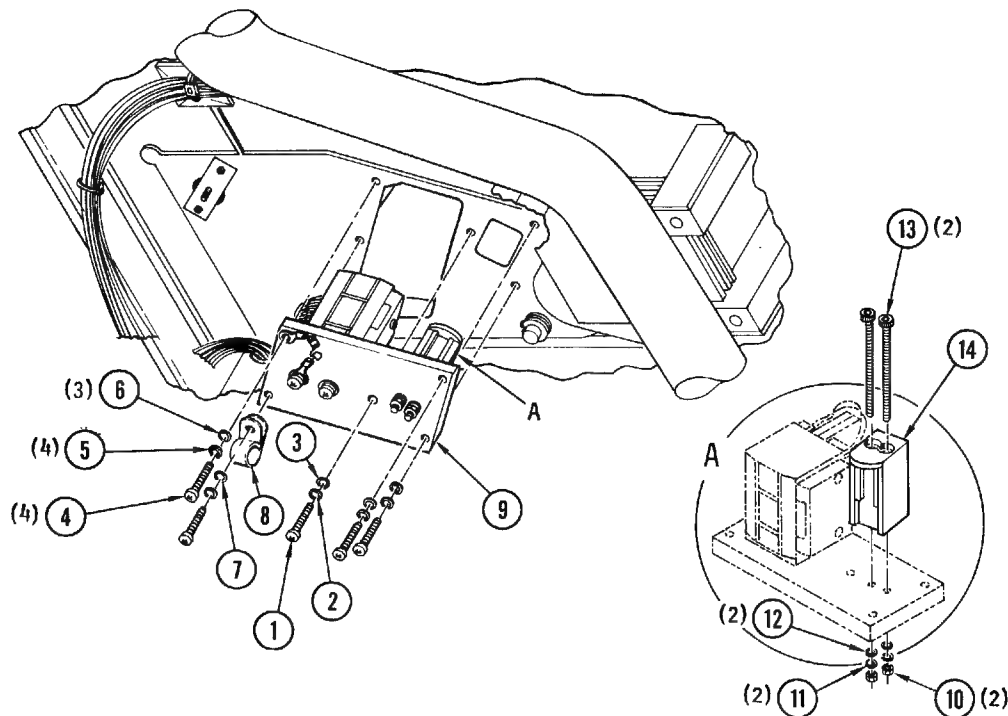

Figure 4-10. Head Assembly
4-24. **Removal and Replacement of Assembly and Parts (Figure 4-10).** Place the transport in service access position (paragraph 4-3) and proceed as follows:
It is not necessary to remove complete assembly from top plate in order to remove tape scraper (14, Figure 4-10). Refer to this paragraph, step f. If head is defective and in need of replacement, entire head assembly (9), including tape scraper (14) must be replaced.
- b. Working from under side of top plate, remove center adjustment screw (1), lockwasher (2), flat washer (3), four screws (4), and lockwashers (5), three flat washers (6), one flat washer (7), and cable clamp (8) supporting assembly (9) with one hand as last screw is removed. Identify wire terminal and cable clamp as to position from which removed, and save attaching parts for reinstallation.
- c. Pull assembly (9) and wire harness carefully down through hole in top plate and cables over air intake tube.
- d. Install replacement assembly in reverse order of sequence in steps b and c, carefully pushing head and connectors through hole in top plate and attaching wire terminal and cable clamp in positions from which removed. Do not tighten center adjustment screw (1) at this time.
- f. If tape scraper (14) only is to be replaced, remove two socket-head screws (13), nuts (10), lockwashers (11), and flat washers (12). Save attaching parts for reassembly, and install replacement scraper in reverse order of removal.
- g. Adjust tape scraper (14) as follows:
- (1) Insert and load a tape.
- (2) Loosen socket-head screws (13) and move tape scraper away from tape.
- (3) Slowly move tape scraper toward tape until it contacts tape.